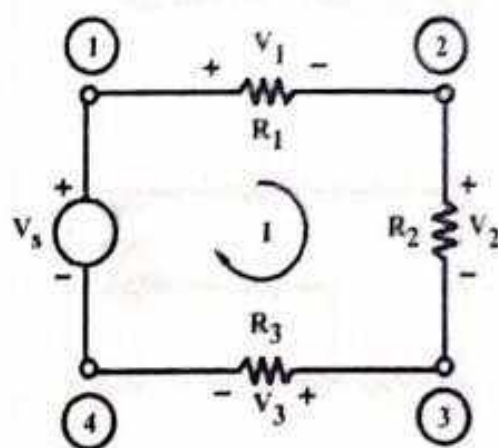

Fig. 1.11 Kirchhoff's Voltage Law
Fig. 1.11 having nodes ①, ②, ③ and ④. Let the unit charge placed at node ① in the network. This charge is moved from node ① to ②, ② to ③, ③ to ④ and finally, it moves from ④ to ①. The decrease in energy in moving from ① to ② is identified as voltage drop whereas the increase in energy in going from ④ to ① is identified as voltage rise. If we assign a negative sign for a voltage rise and a positive sign for a voltage drop,